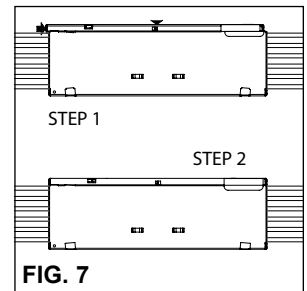

FIG. 7
6. Slide slot in lid over channel lock to full extent and slide pathway lid to the right to reactivate lock (See Fig. 7).